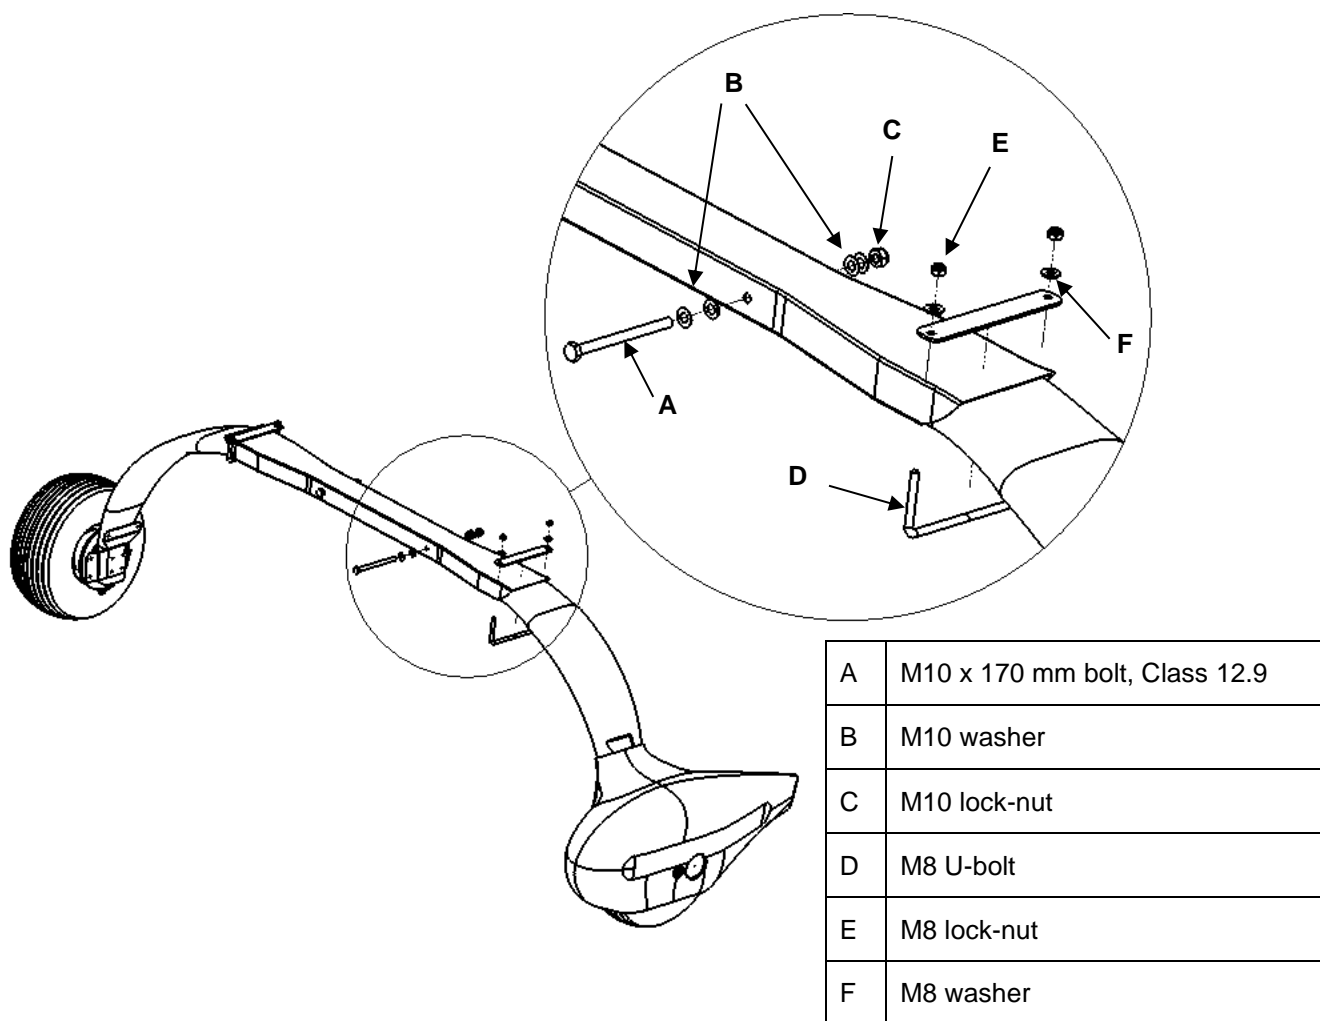

Figure 41: Main gear installation.
- Torque the bolts / lock-nuts to the correct value (refer to paragraph 1.5.2), observe the correct placement of washers (refer to Figure 41) and note that the bolts are installed with the bolt heads facing towards the rear of the aircraft.